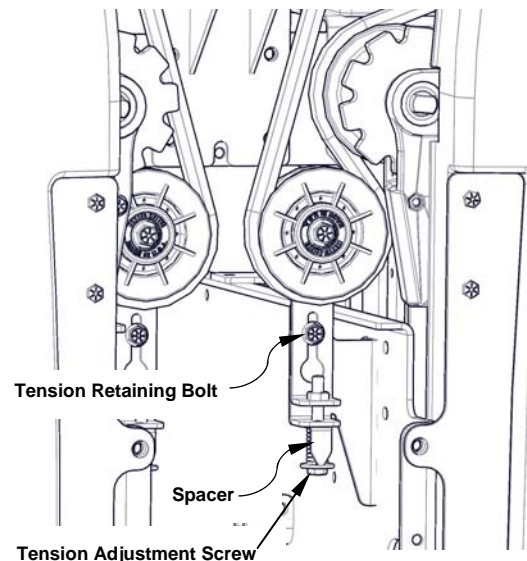

Figure 2-1, Drive Belt Tension Adjustment
- Loosen the tension retaining bolt in the adjustment slot (see Figure 2-1). This bolt **MUST** be loosened to check or adjust belt tension.
3. Loosen the belt's Tension Retaining Bolt (see Figure 2-1).